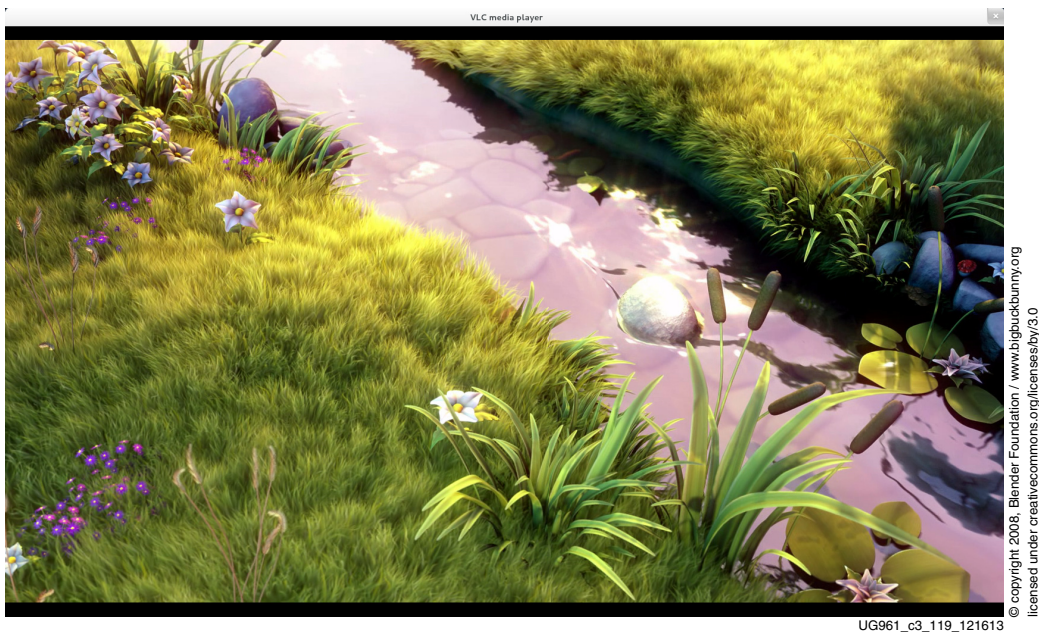
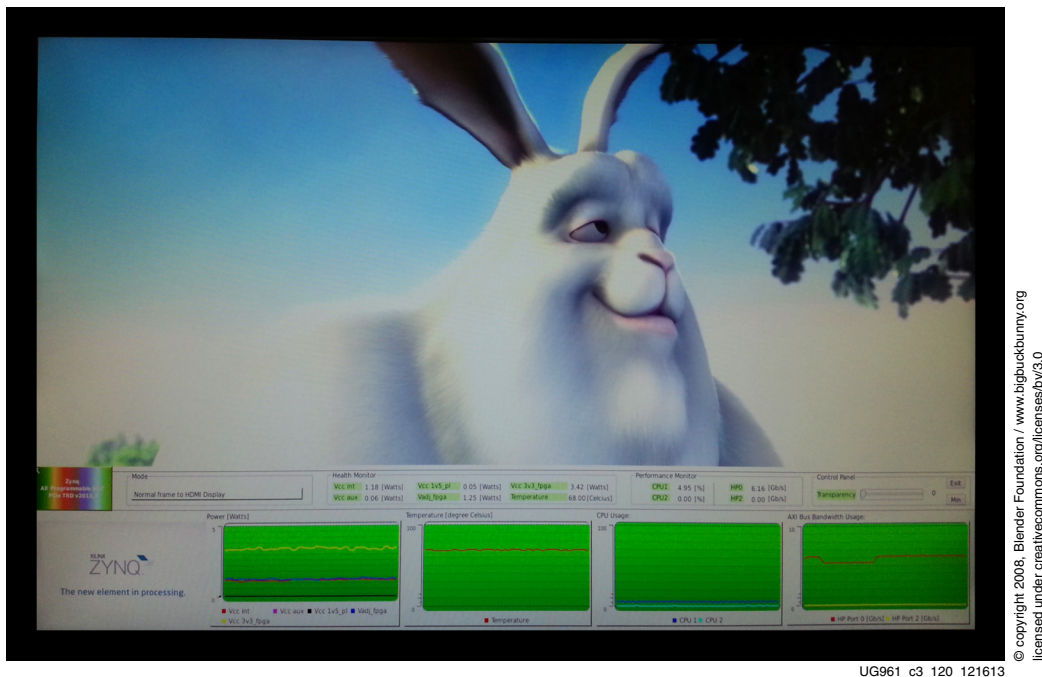

Figure 3-19: Video running on Host
Figure 3-20: Video running on HDMI Monitor with SOBEL set to None
**Note:** The video file used in this example and shown in Figure 3-19, Figure 3-20, and Figure 3-21 is Big Buck Bunny, available for free download from [www.bigbuckbunny.org](http://www.bigbuckbunny.org).
The video being transmitted to the Zynq-7000 SOC is displayed on the host machine in it's original form through a vlc player window as shown in Figure 3-19.
13. When the filter option is set to **None**, video data from PCIe host system is sent directly to the display without being processed by the edge-detection sobel filter. The transmitted video appears on the display as shown in Figure 3-20.